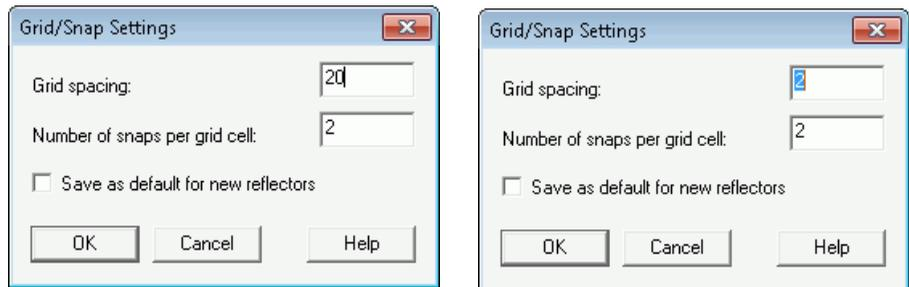

Figure 1.9 Grid/Snap Settings for Reflector view (left) and for Output view (right)
- 1 In the reflector view, right-click and click **Grid/Snap Settings** on the shortcut menu. Complete the settings as shown in Figure 1.9 (left image). Click **OK**.
- 2 In the output view, right-click and click **Grid/Snap Settings** again. Complete the settings as shown in Figure 1.9 (right image), and click **OK**.